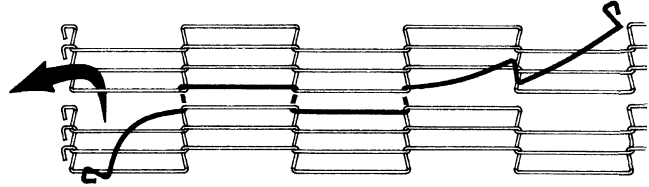

Figure 91: Pull Splicing Link Straight
7. Pull the end of the splicing link toward the edge of the conveyor to straighten it out. Refer to Figure 91.